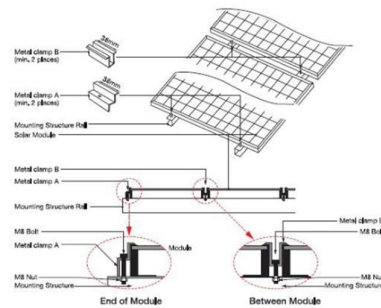

Figure 2. Mounting using clamps.
- If module clamps are used to secure the module, the torque on the clamp bolt has to be in range of 8-12 Nm for M6 bolt and in range of 14-18 Nm for M8 bolt. (Figure 2).